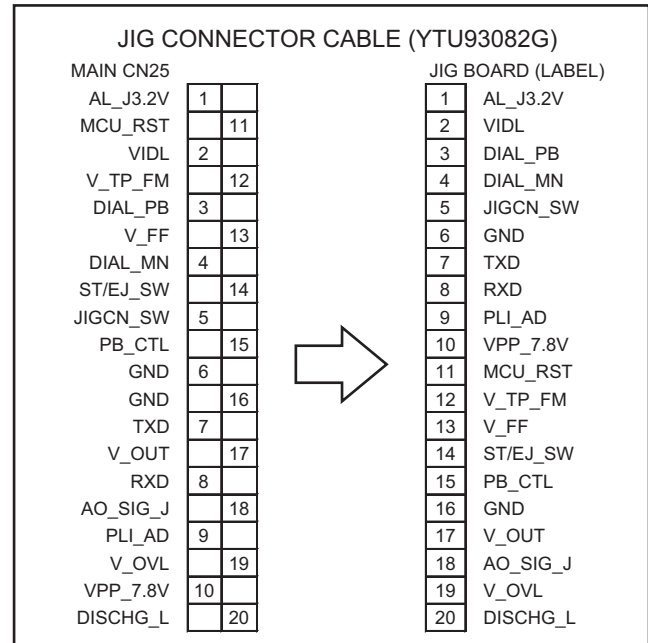

Fig.4-2-2
- (2) Connect the JIG CONNECTOR CABLE to CN25 on the MAIN BOARD ASSEMBLY as shown on Fig. 4-2-2.
- (3) Observe signal at V_TP_FM with external trigger from V_FF on the JIG CONNECTOR CABLE.
- (4) Playback the SP stairstep signal of the alignment tape and maximize the FM waveform by the tracking button.
- (5) Set the tracking control to the center position by simultaneously pressing the tracking (-) and (+) buttons and maximize the FM waveform by the tracking button.
- (6) If the observed FM waveform is not flat, adjust the height of the SUPPLY of TAKE-UP GUIDE ROLLER with the roller driver.